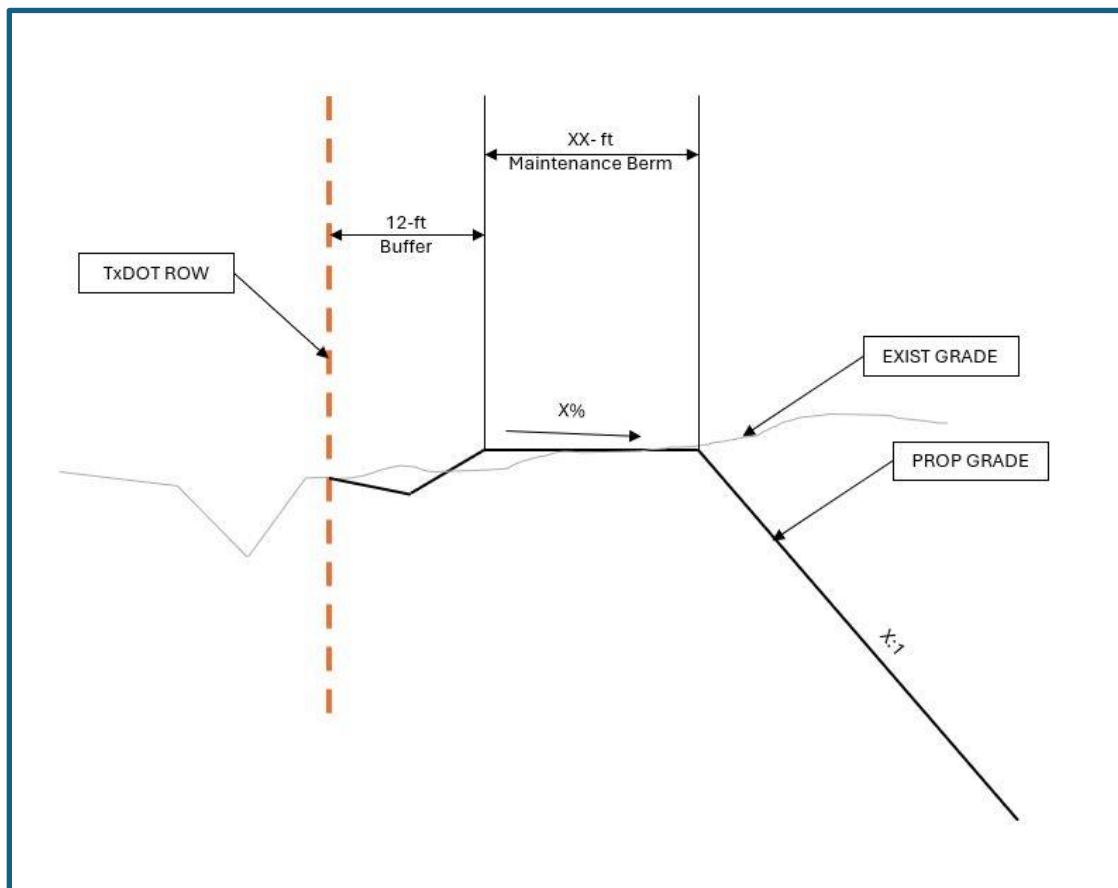

Figure 3: Example of Buffer Along TxDOT ROW
7. If the proposed detention pond is located adjacent to TxDOT ROW, a 12 ft minimum buffer between the maintenance berm and TxDOT ROW must be provided. See Figure 3 for an illustrative example.